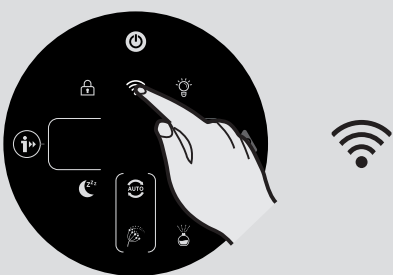

Fig. 6
6. Press and hold the Wi-Fi button on the display for 5 seconds, there will an audible beep and the Wi-Fi button will start flashing to indicate it is waiting for a connection. [Fig. 6]